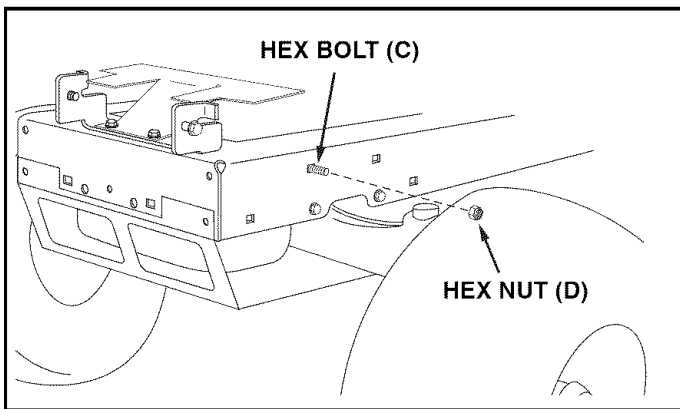

FIGURE 3
STEP 2: (SEE FIGURE 3)
- Insert a hex bolt (C) into the second mounting hole from the front of the tractor frame and fully tighten a hex nut (D) onto the bolt. Repeat on other side of tractor.